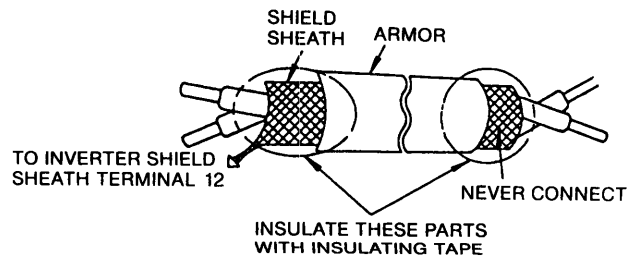

Fig 4 Shielded Wire Termination
(2) Control circuit leads 9, 10, 18, 19, 20 (contact output) must be separated from leads 1 to 8, 11 to 17, 21, 22 and 25 to 27.
(3) Use the twisted shielded or twisted-pair shielded wire for the control circuit line and connect the shield sheath to the inverter terminal 12 to prevent malfunction caused by noise. See Fig. 4.